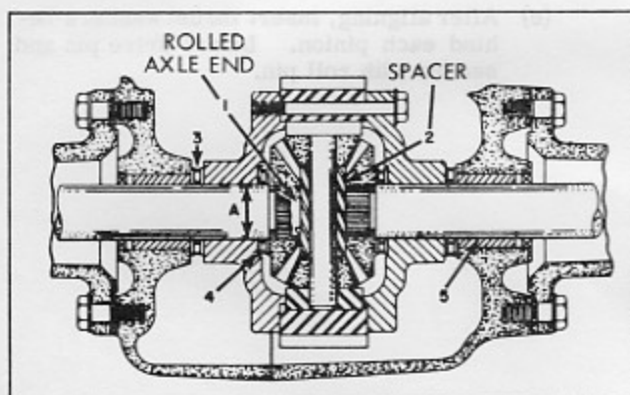

Figure 8-12 1700 Series Transaxle
2. The 1200 series differential carrier is supported directly on the axle (1). Roller thrust bearings (2) are used between the bevel gear (3) and the differential carrier (4). This illustration shows axles with snap ring (5) retainers, some earlier production had rolled over axle ends to secure the assembly. Thrust washers (6) are used at the ends of the differential carriers and case/cover thrust face. The drive pin (7) and drive blocks (8) are similar to those used in Figure 8-12. Replace the differential carrier if worn in excess of .878 at point A.
3. The 1700 series differential has rolled on the ends (1) to retain the bevel gear to the axle. The 1700 differential is also made with snap ring retainer on the axle. In event it is necessary to replace parts, the new axles will be snap ring type and the spacer (2) will be eliminated.